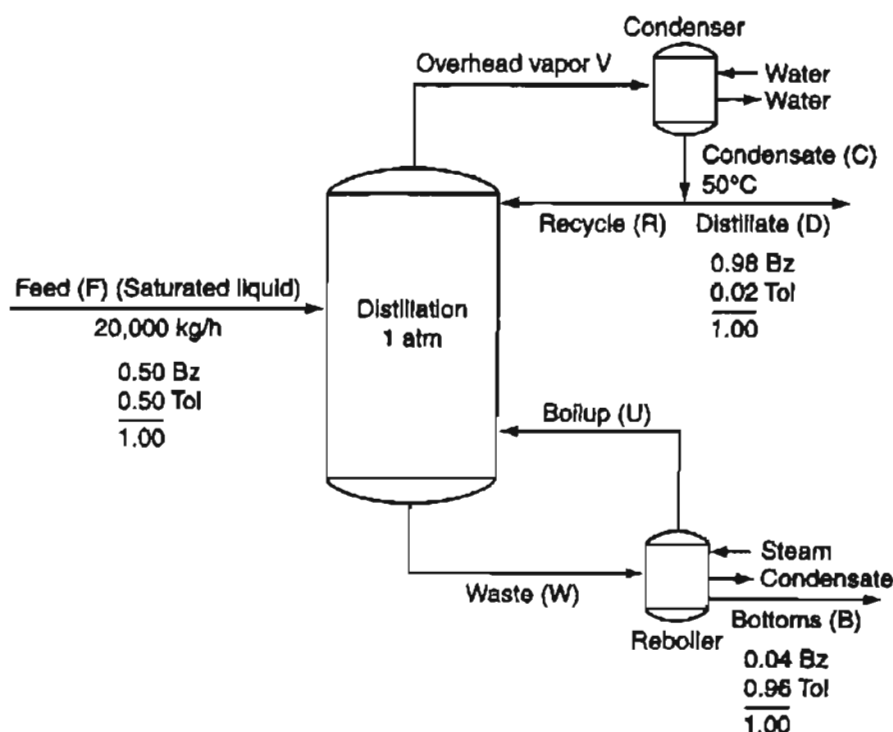
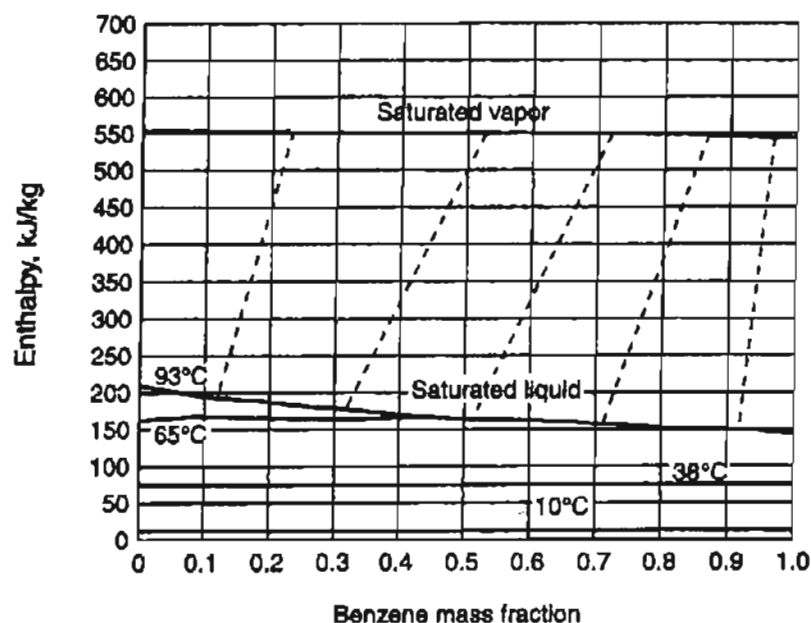

Figure E24.9a
Figure E24.9b The ends of the dashed lines show the equilibrium compositions between the liquid and vapor.
A feed of a mixture of benzene (Bz) and toluence (Tol) is separated as shown in Figure E24.9a. Calculate the values of the distillate (D), the bottoms (B), the heat duty (heat removed by the water) in the condenser (Q_C), and the heat duty (input) to the reboiler (Q_R). The recycle ratio R/D is 4.0.
Figure E24.9a contains most of the information pertaining to the problem. Enthalpy data will be taken from Figure E24.9b at the cost of some accuracy to save you time.